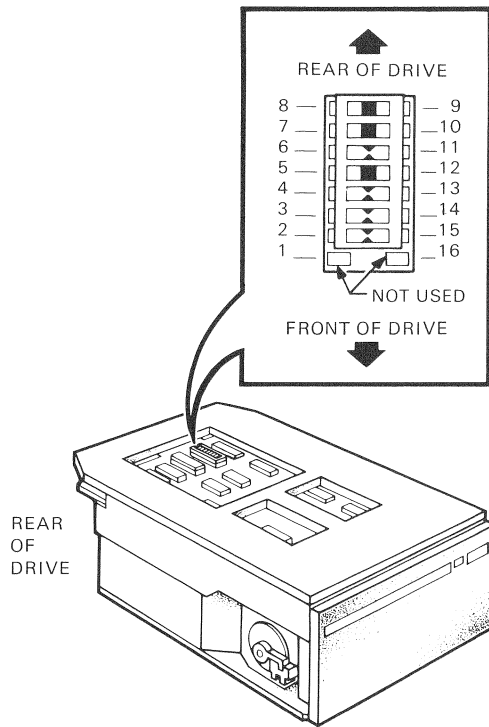

Figure 8-10 DIP Shunt Pack Setting
* Place the 14-pin DIP jumper pack in the rear 14 receptacles of the 16-pin socket (Figure 8-10).